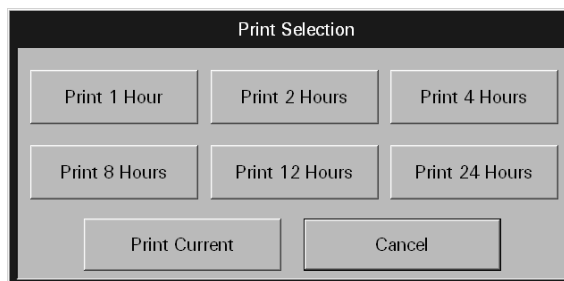

FIGURE 7-9 Print Selection Dialog Box
1. From the **List** view, select the **Print** menu bar button. The Print Selection dialog box (shown in FIGURE 7-9) is displayed.